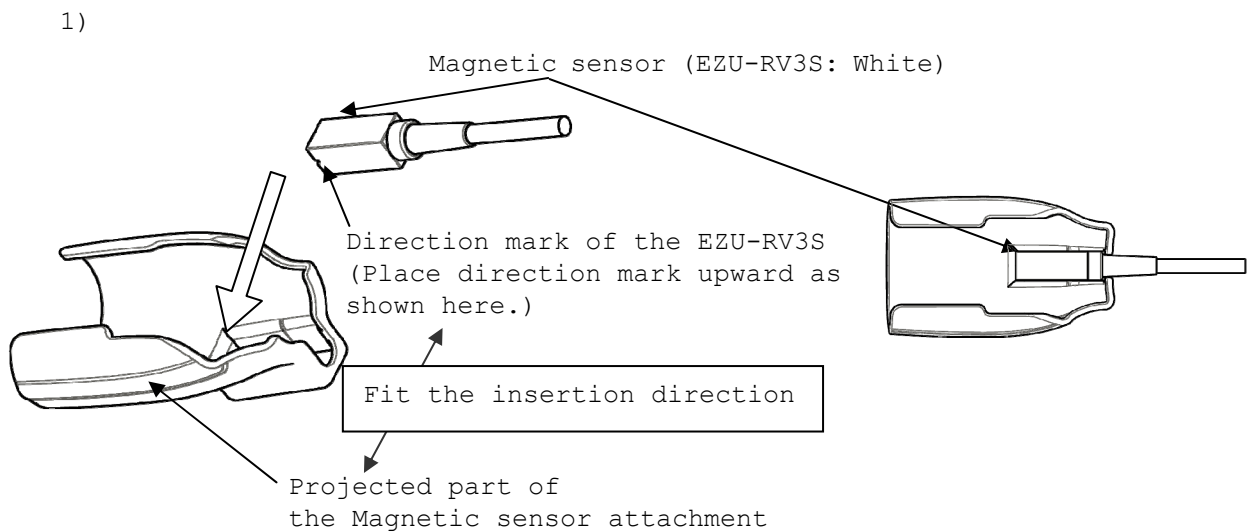

Fig. 9 How to attach the Magnetic sensor attachment
- 1) Attach the magnetic sensor into the probe with the correct direction as shown in Fig. 9.